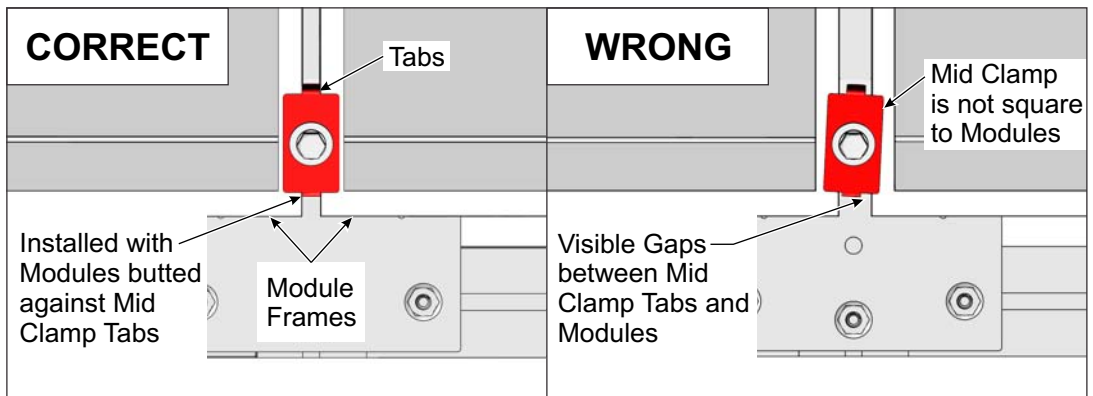
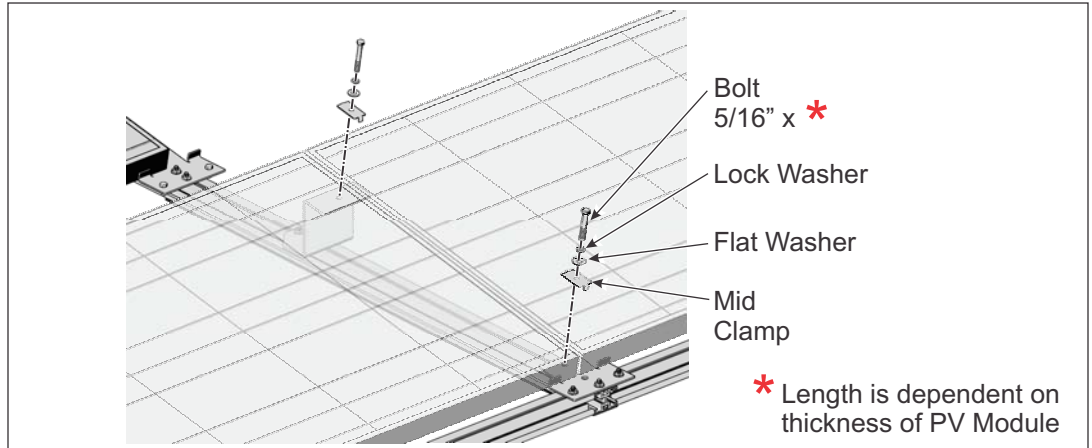

Figure 8-8: Correct and Wrong methods of installing Standard Mid Clamp
Figure 8-9: Installing Mid Clamps into Front and Rear Tilt Brackets
Secure the inside Module edges with Mid Clamps. Install two Mid Clamps per Module one on each of the interior Tilt Brackets (Front and Rear) between two E-W Modules. (See Figures 8-8 and 8-9)
- K. Insert one 5/16 x XX inch bolt (length is dependent on thickness of PV Module) with lock and flat washers through the Mid Clamp and thread into the Tilt Bracket. Be sure that the tabs of the Mid Clamps rest between the two Modules and the Modules are butted up against the Mid Clamp tabs (see figure 8-8). For now, finger-tighten the bolts as this is a test run. (See Figure 8-9)